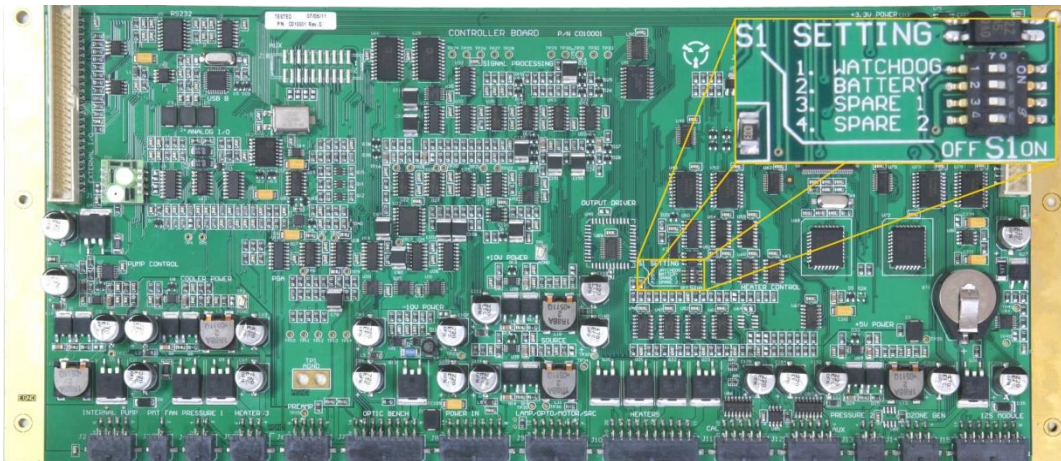

Figure 5 – Switching the battery on/off
2. Check the battery is turned on at the main controller PCB (refer to Figure 5).
3. If storing over a long period (6 months) turn the battery off by switching the switch on the main processor board (refer to Figure 5) to the left.